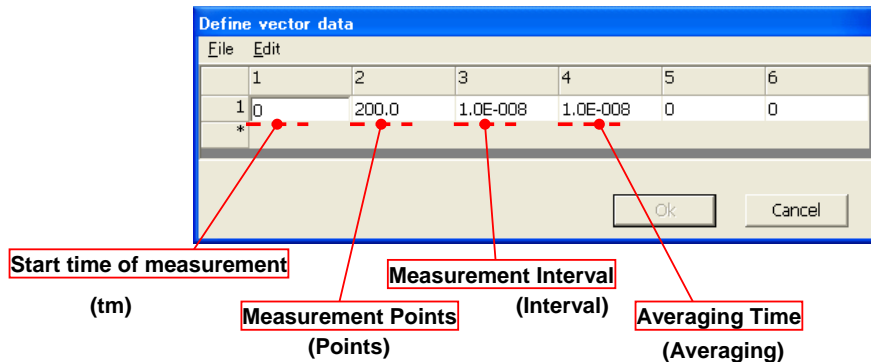

Fig. 2-7 Measurement event setup
Fig. 2-7 shows the actual setting of this measurement. The measurement event can be defined by using the Define vector data dialog box opened by clicking (3) shown in Fig. 2-4.